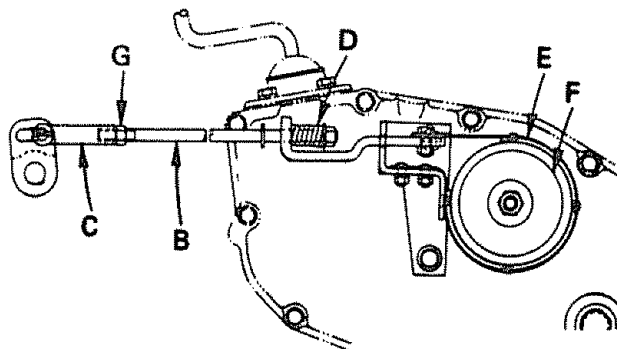

FIGURE 49
- Loosen Jam Nut (G) on Brake Rod (B) at Clevis (C) (Fig. 49). If you find it difficult to loosen Jam Nut (G), remove Cover Plate in L.H. Frame Rail.
- Rotate Brake Rod (B) counterclockwise, (↺) turning Brake Rod out of Clevis (C) four to six turns.
- Shut engine off. Rotate Brake Rod (B) clockwise by hand, turning Brake Rod into Clevis (C), until tight. Tighten Jam Nut (G) on Brake Rod (B) at Clevis (C) (Fig. 49).
- Reinstall Lift Cover Plate and four (4) Mounting Screws. If Cover Plate was removed in step b it should be replaced.